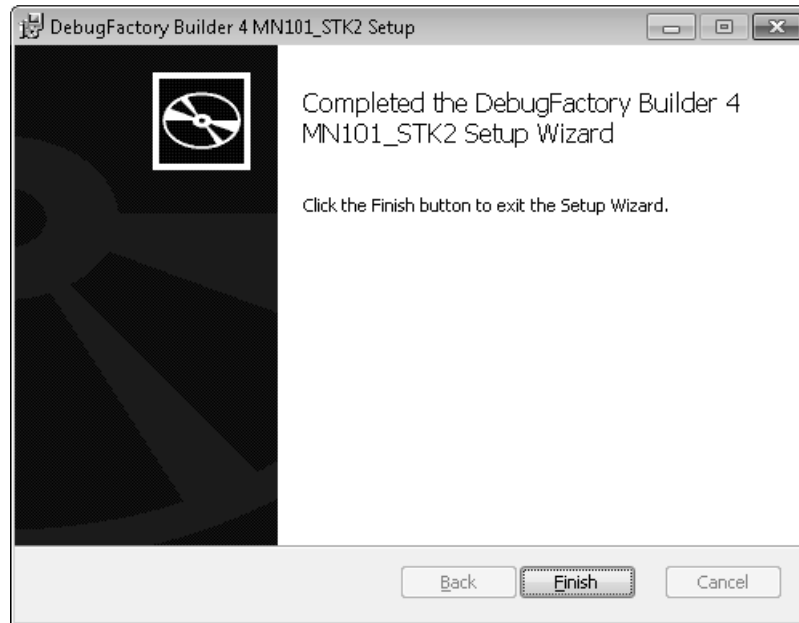

Figure 2.1.8 Setup Completed
8. The dialog shown in Figure 2.1.8 appears. Click <Finish>.